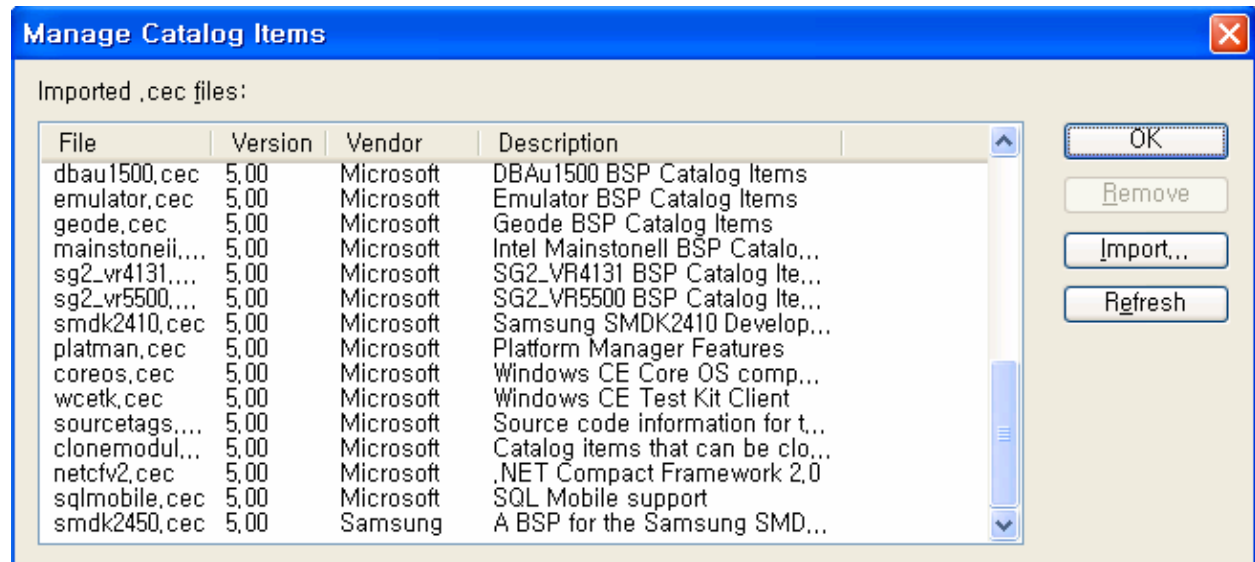

Figure 2-6 Catalog Items Window after Adding SMDK2450.cec File
- Now SMDK2450.cec is added to Imported .cec files: list in Manage Catalog Items window as shown in figure 2-6. Click Refresh button first and then OK click button.